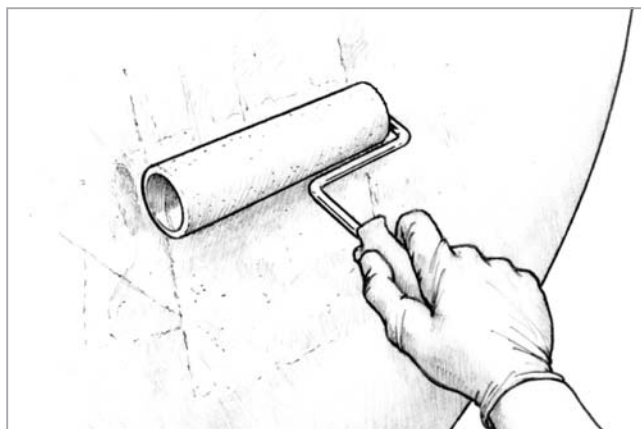

Figure 4 Wet out the surface with resin/hardener mixture. To avoid sags, allow the wet-out coat to gel before applying fairing compound.
2. Wet out the surface with resin/hardener mixture (*Figure 4*). It is a good idea to coat the entire surface or repair area at this time. When coating metal surfaces, you can increase the ultimate adhesion of the fairing material by sanding the wet epoxy mixture into the metal with coarse sandpaper. To avoid sagging, allow the wet-out coat to gel before applying the fairing compound. Sanded epoxy surfaces do not need to be wet out.
2. Wet out the surface with resin/hardener mixture (*Figure 4*). Coat the entire surface or repair area at this time. To avoid sagging, allow the wet-out coat to gel before applying the fairing compound. Sanded epoxy surfaces do not need to be wet out.